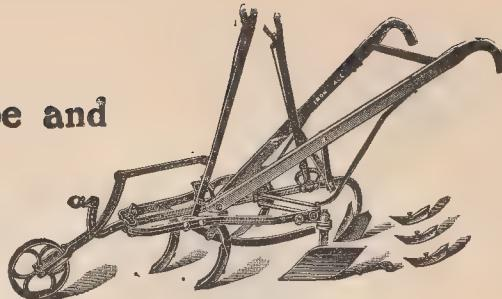

Fig. 188
**The Depth Regulator Attachment** is applied as shown in Fig. 188, and by adjusting the front lever the depth of running of the Cultivator may be quickly changed. It will be noticed the wheel and the Depth Regulator work in unison, although the comparative depth of either may be quickly changed. By throwing the Depth Regulator down to its extreme depth, the Cultivator may be completely raised from the ground and easily carried to and from the field.